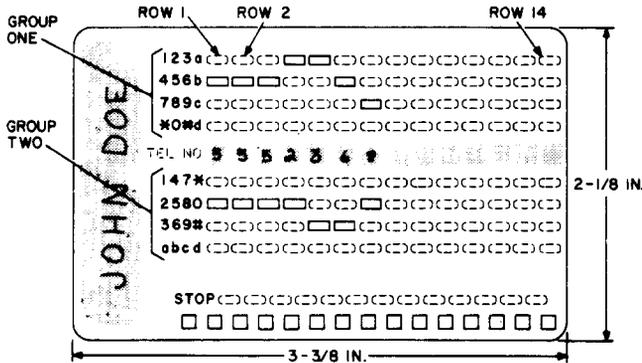

Fig. 3—Dial Card Coded For 7-Digit Telephone Number
- Write name and telephone number in spaces provided as shown in Fig. 3 and 4.
Note: There are two groups of numbers 1 through 0 on the card (Fig. 3), plus 6 special characters, *, #, a, b, c, d. **DO NOT** confuse these with exchange letters.
- In Fig. 3 the first digit of the telephone number is 5. In row 1, locate digit 5 in the first group of numbers and punch out the perforation with a pencil or ballpoint pen. In the same row, locate digit 5 in the second group of numbers and again punch out the perforation.